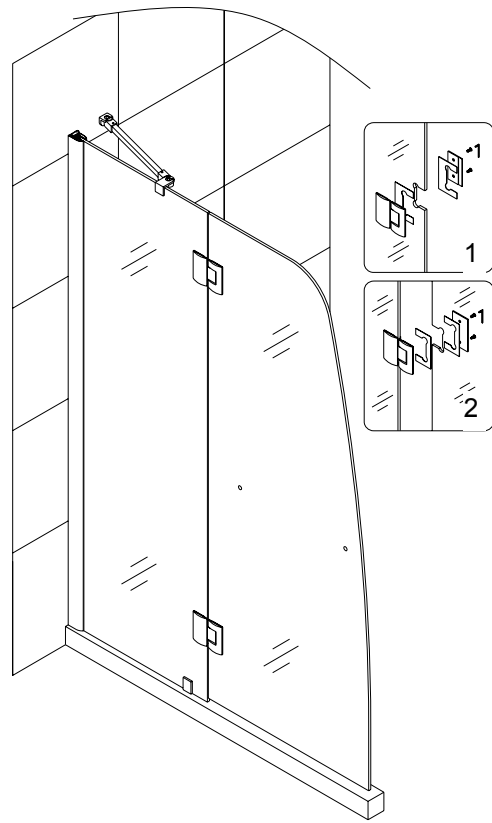

Fig 6
5. Install the **Hinges (04)** on the stationary glass with the decorative non-screw side facing outwards. Hook the **Glass door (05)** from inside. Make sure rubber gaskets are used to prevent glass to metal connection. Perform necessary adjustment to have the top edge of the door in line with that of the stationary glass. See Fig.6 for details.